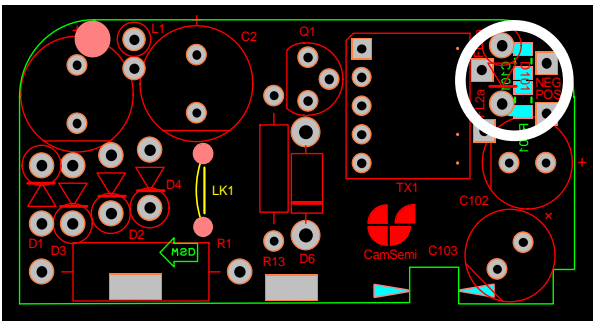

Figure 12: Output Snubber Components
The output snubber components (Figure 12) should be as close to the output diode as possible to help eliminate EMI from the secondary circuit. NB These components are not always required.
- Output Snubber Components - Figure 12